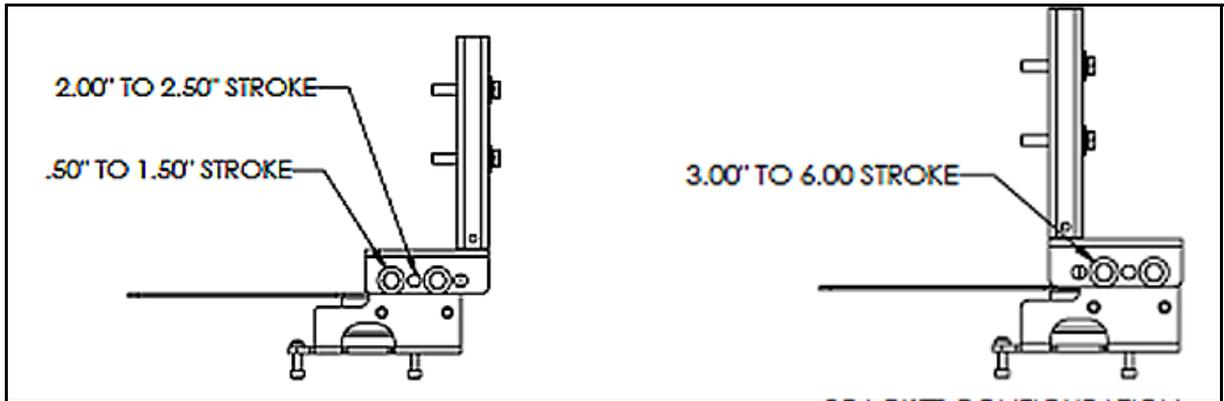

Figure 20 Bracket Configuration Strokes .5 - 2.50" and 3-6"
4. Mount take-off bracket to stem block at angle which keeps turnbuckle assembly parallel to stem (Figure 20) using: